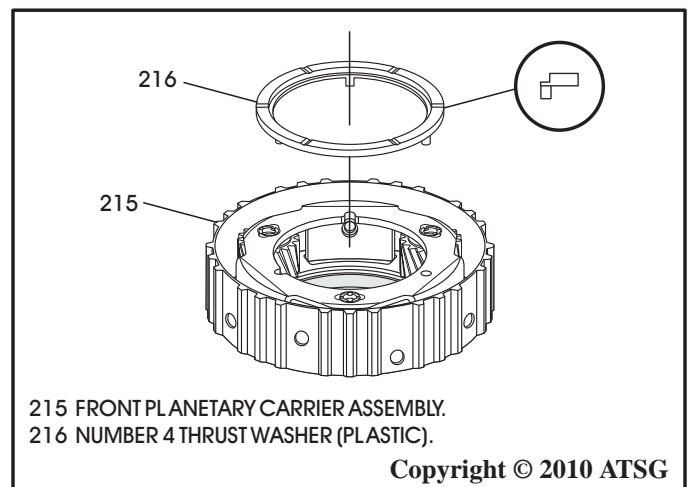

Figure 151
8. Install number 4 (white plastic) thrust washer on back side of the front planetary carrier, as shown in Figure 151.